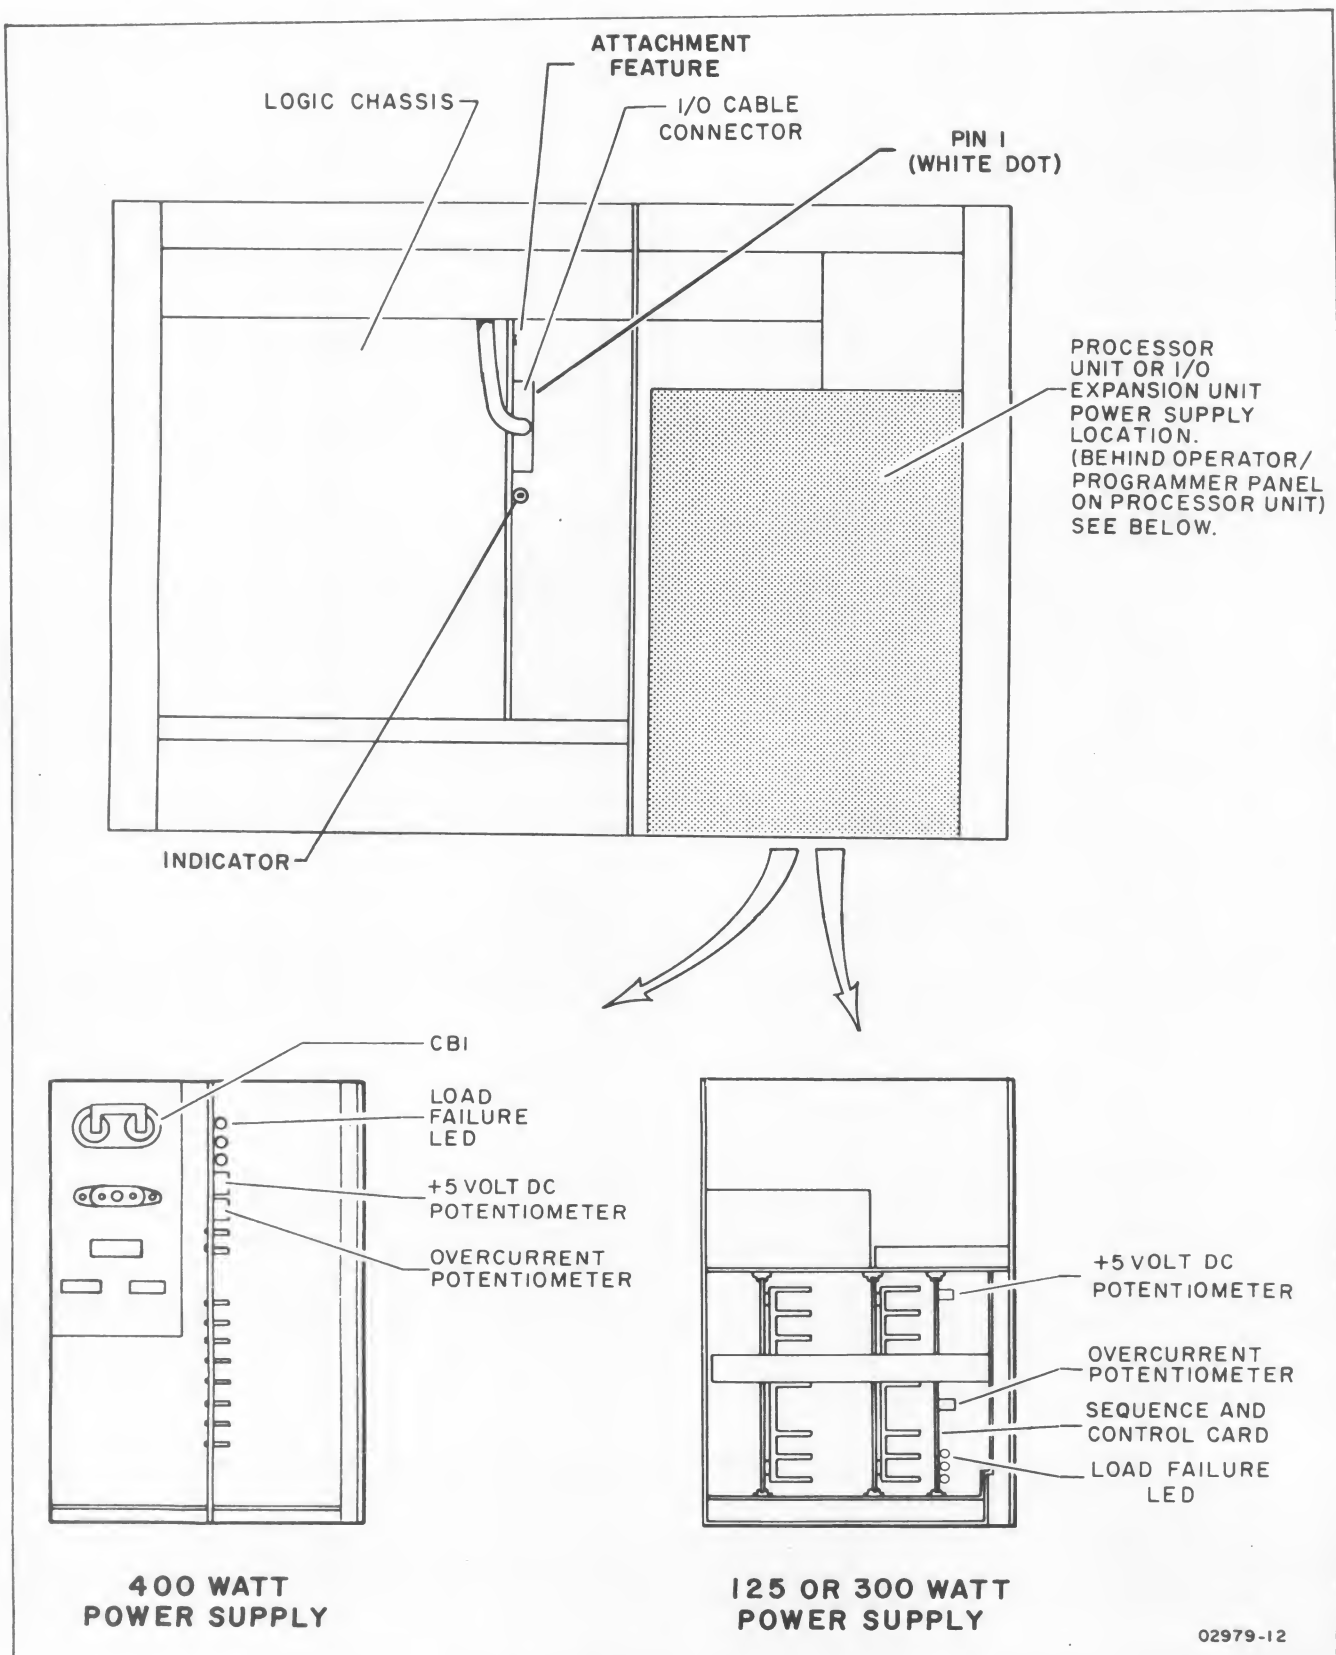

Figure 3-2. Adjustment Potentiometers and Attachment Cable
11. Connect the attachment feature card-Series/1 adapter interface cables as shown in figure 3-2. Note that the Bus In cable is connected to the top connector on the card and the Bus Out cable is connected to the bottom connector on the card.
If chassis power does not come up, turn the over-current potentiometer (see figure 3-2) clockwise one full turn; then press the unit power ON/OFF switch to OFF, then to ON. Keep repeating this clockwise adjustment and power sequencing until power comes up.